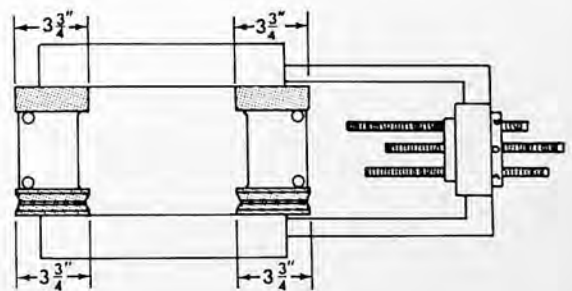

Figure 1
7. Scrape high spots just enough to remove blueing - then place turret back on lathe and check again as in steps 5 and 6. Repeat this procedure until bearing pads bear $3\frac{3}{4}''$ as shown in figure 1.